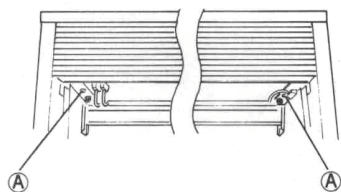

Fig. 1
Disconnect the left and right external connectors at the bottom of the HX-1 by removing the 5 x 85 panhead screw ① on each side. (Fig. 1)